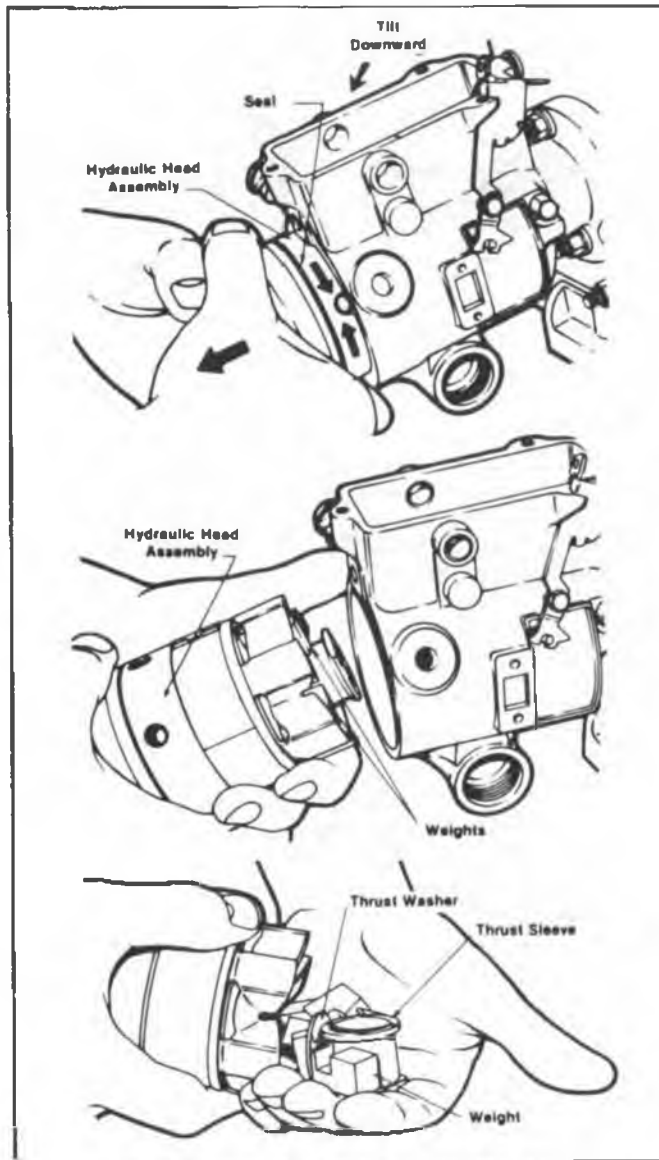

Fig. 2-30 Head, Rotor and Governor Weights
21. Remove the head and rotor assembly, governor weights, thrust sleeve, and thrust washer (Fig. 2-30). Take care that head and rotor assembly doesn't roll off workbench onto floor.
6. Install the entire head and rotor assembly, making certain that the drive shaft is properly engaged (with "T" mark on drive shaft up, align dots on drive shaft tang and rotor slot). Reverse the action shown in Figure 2-30. To check for correct hole alignment, insert one of the locking head bolts into the head locating screw hole. If it does not fit, alignment is correct. Remove the locking head bolt and use it and the other locking head bolt to retain the head assembly in place (hand tighten only).